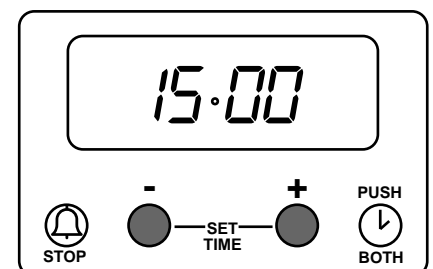

Fig. 6.12
To reset, press button (1) and (2) together. See Fig. 6.12.